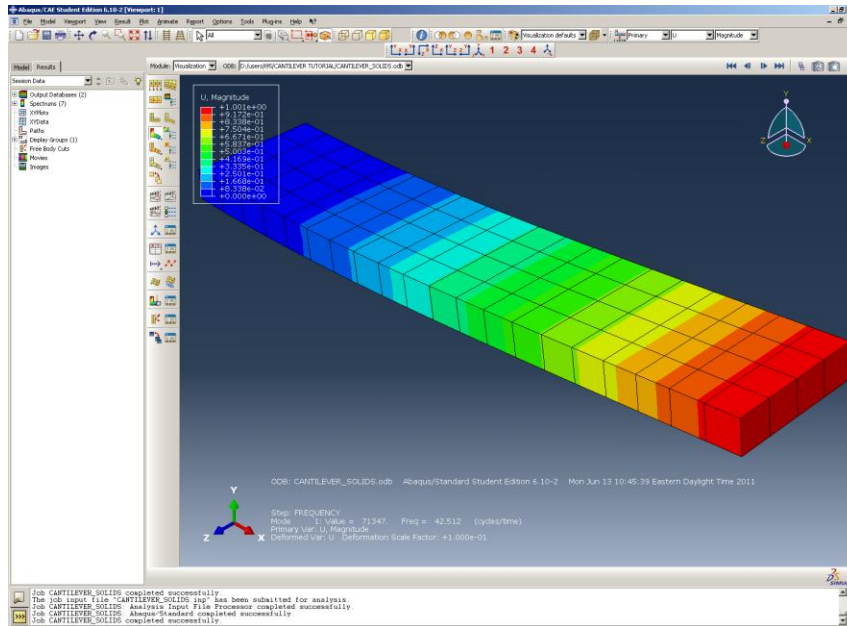
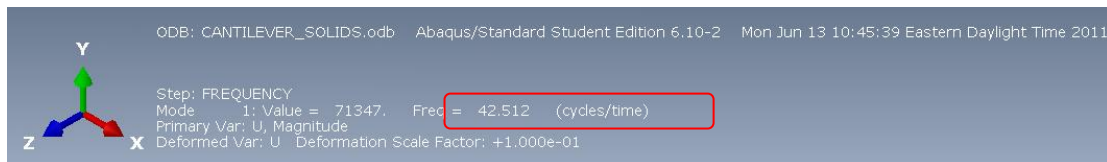

Figure 34. Deformed Shape
Figure 35. Natural Frequency of Bending Mode 1
- To view the deformed shape of the model, click the **Plot Contours on Deformed Shape** icon  in the **Visualization** module. The model should look similar to that in Figure 34.
- The natural frequencies and corresponding mode shapes can be found in the viewport. The natural frequency of the beam shown in Figure 34 occurs at 42.51 Hz. This numerical value can be seen at the bottom of the viewport (Figure 35).
- The corresponding mode shape occurring at this frequency is shown by the contour plot shown in Figure 34. To view the other modes that were requested by the analysis click the arrow icon  at the top right of the viewport.